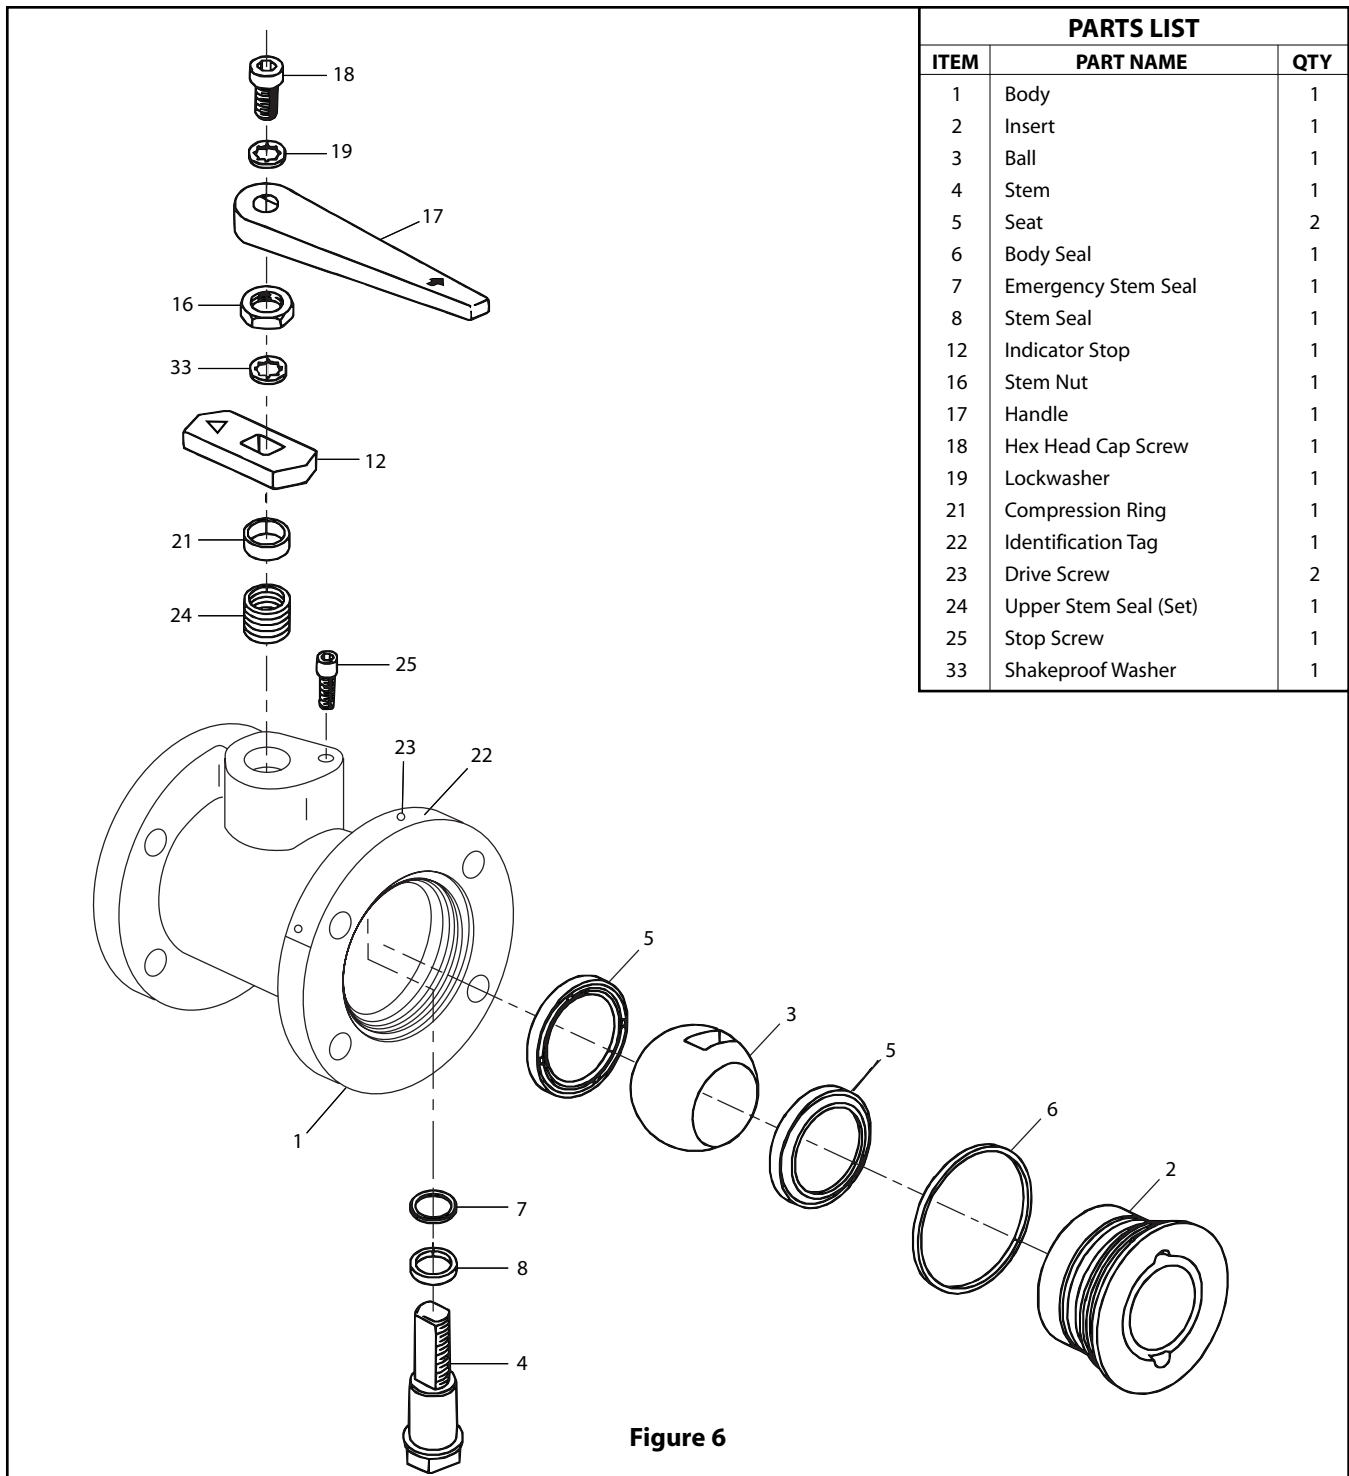

Figure 6
8. Insert the ball (3), rotating it onto the stem (4) in the closed position. If necessary, turn the stem blade to align with the ball slot.
9. Insert the second seat (5) so that the sealing surface of the seat is towards the ball **(see Figure 6)**.
10. Insert the body seal (6) and gently press it into the groove in the bod